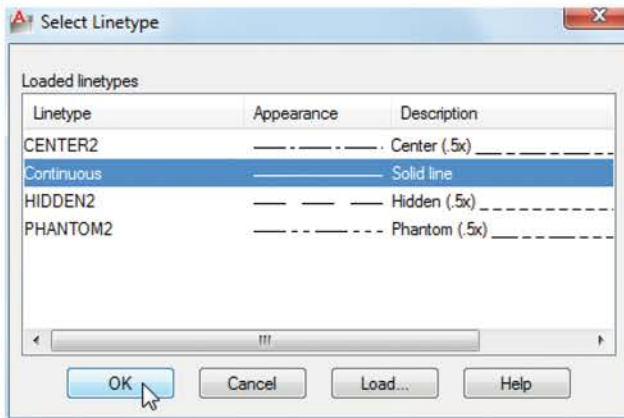

Fig. 5.17 The Select Linetype dialog
5. Click on the linetype **Continuous** against the layer name **Centre**. The **Select Linetype** dialog appears (Fig. 5.17). Click its **Load . . .** button and from the **Load or Reload Linetypes** dialog *double-click* **CENTER2**. The dialog disappears and the name appears in the **Select Linetype** dialog. Click the **OK** button and the linetype **CENTER2** appears against the layer **Centre**.